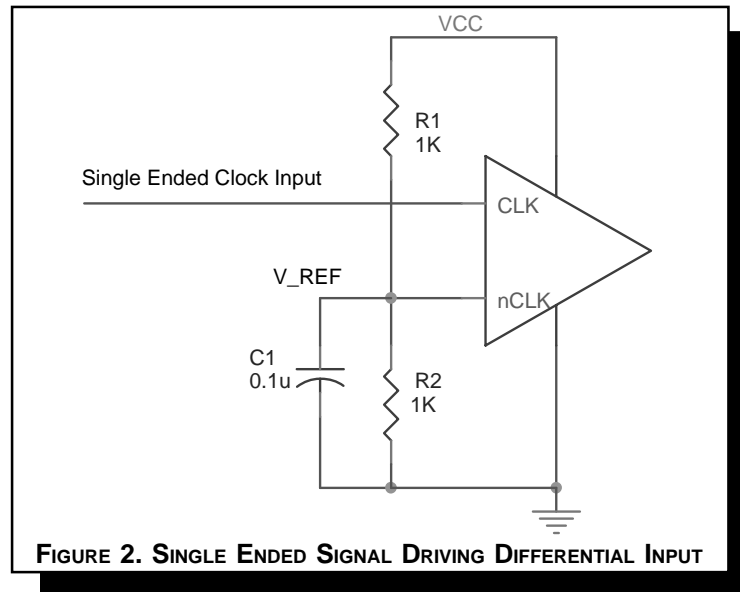

FIGURE 2. SINGLE ENDED SIGNAL DRIVING DIFFERENTIAL INPUT
*Figure 2* shows how the differential input can be wired to accept single ended levels. The reference voltage  $V_{REF} \approx V_{CC}/2$  is generated by the bias resistors R1, R2 and C1. This bias circuit should be located as close as possible to the input pin. The ratio